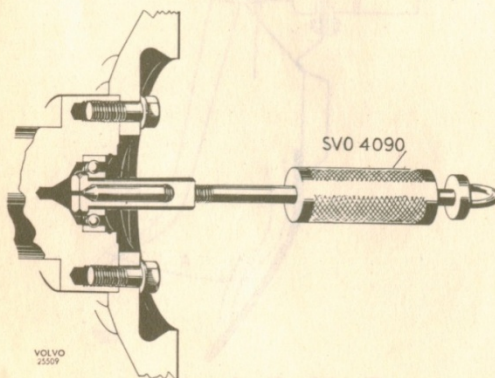

**Fig. 2-3. Clutch plate**
3. Rivet on the new facings (preferably in a rivet press). Note. The rivets should be inserted from the side on which the facing lies and riveted from the opposite direction against the disk. Use every other hole in the facing. After riveting, the facings should be spaced from each other as determined by the indentations in the disk. See Fig. 2-3. This is most important in order to achieve a smooth engagement when starting and driving. The clutch facings must be absolutely free from oil. Oil on the facings can cause the clutch to chatter or grab.